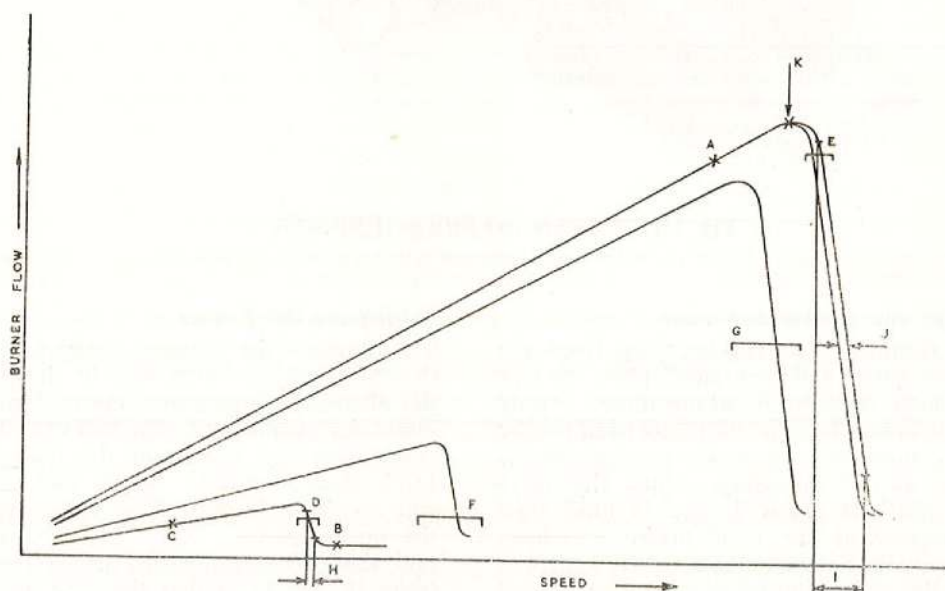

Fig. 11. Governor setting graph
must be maintained downstream at the restrictor orifice by restricting the flow on the needle valve in the burner flow line. The value of the pressure depends upon unit speed, and reference should be made to the graph (fig. 11).
11. The flow should be set to 37 to 38.5 gal/h at 3750 rev/min, Point A on fig. 11.